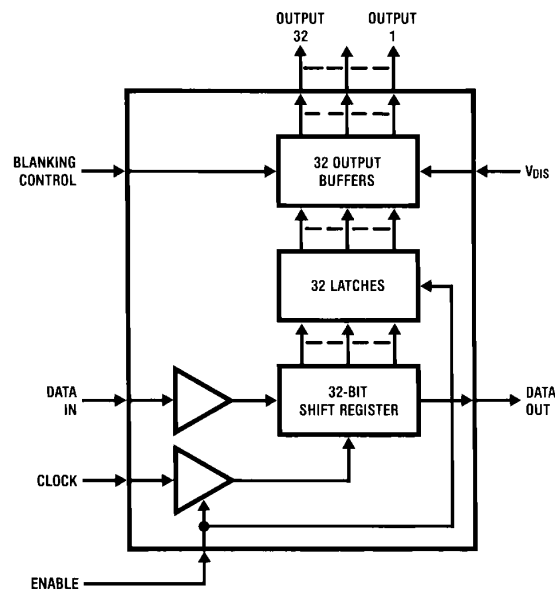

FIGURE 1
This product is specifically designed to drive multiplexed or non-multiplexed high voltage alphanumeric or dot matrix vacuum fluorescent (VF) displays. Character generation is done externally in the microprocessor, with a serial data path to the display driver. The MM58341 uses three signals, DATA IN, CLOCK and ENABLE, where ENABLE acts as an external load signal. Display blanking can be achieved by means of the BLANKING CONTROL input, and a logic '1' will turn off all sections of the display. A block diagram of the MM58341 is shown in *Figure 1*.